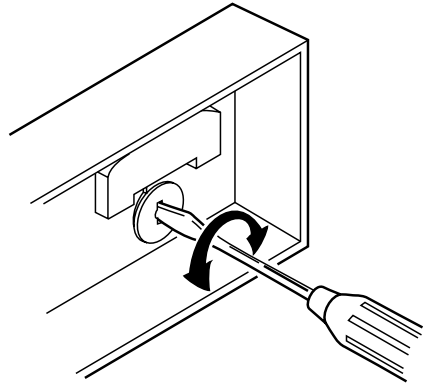

Fig. 15. Thermometer calibration
5. If the readings are different, insert a small screwdriver into the thermometer and turn it until the thermometers have the same reading. See Fig. 15.